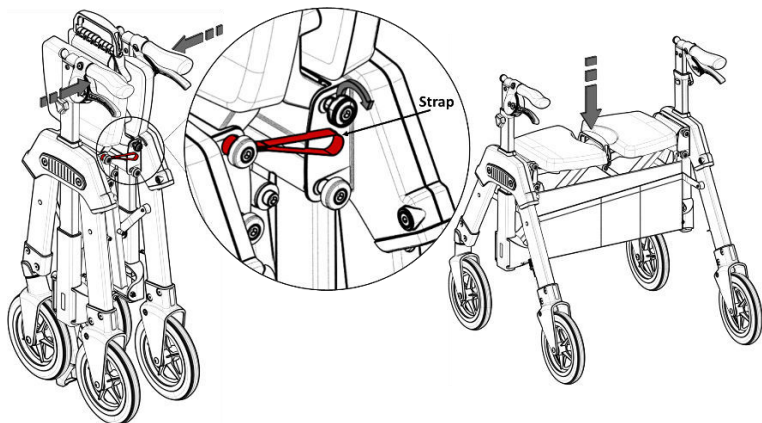

FIGURE 1
1. To **open** the Rollator, squeeze handles together and unhook **Strap**, pull handles apart, and push down on the seat as shown in **FIGURE 1**.